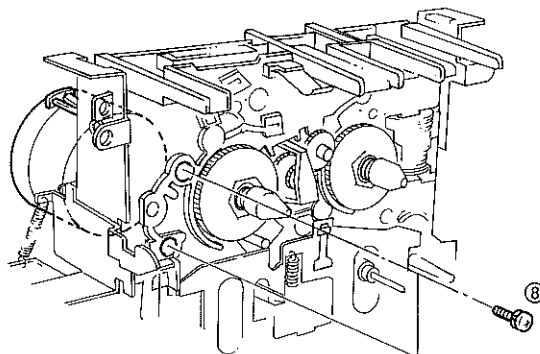

Fig. 8
a. Remove 2 screws (8) in fig. 8 and then remove the motor.